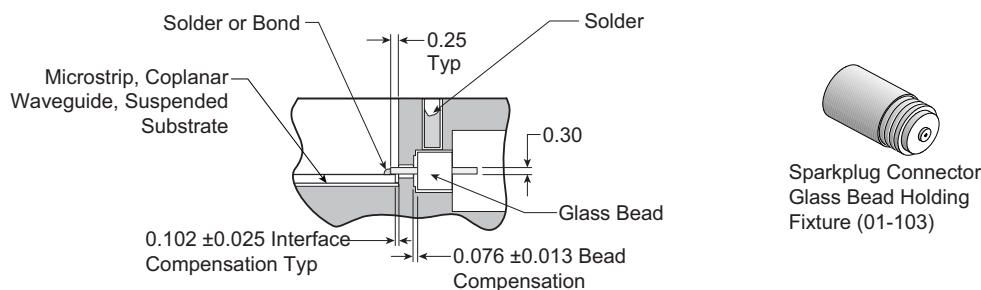

Figure 5-3. K102M-R Glass Bead Assembly
1. Install the microstrip into the housing (see Figure 5-3 for dimensional tolerances around the glass bead).
3. Flux the glass bead and insert it, long-end first, into the 01-103 Glass Bead Holding Fixture (Figure 5-3).